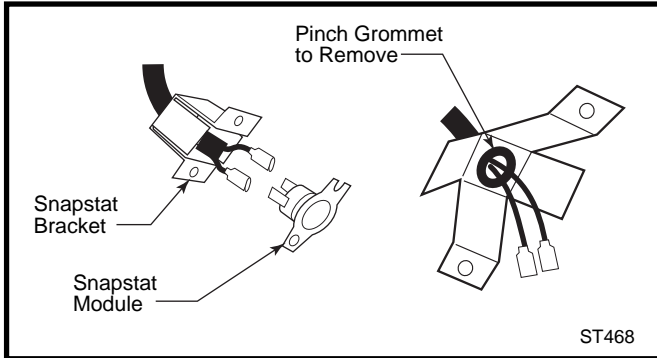

Fig. 8 Remove snapstat and grommet from bracket.
2. Disconnect the snapstat module from the leads inside the snapstat bracket. (Fig. 8)